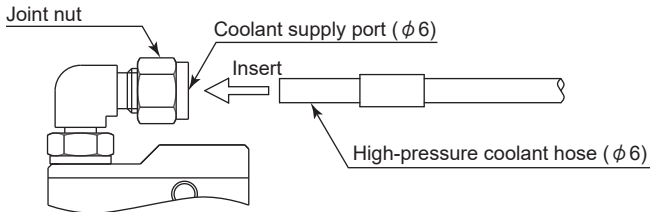

Fig. 15
- (1) Insert the high-pressure coolant hose (diameter  $\phi 6$  mm) fully into the coolant supply port (diameter  $\phi 6$  mm), and turn the joint nut clockwise to tighten it. (Fig. 15)